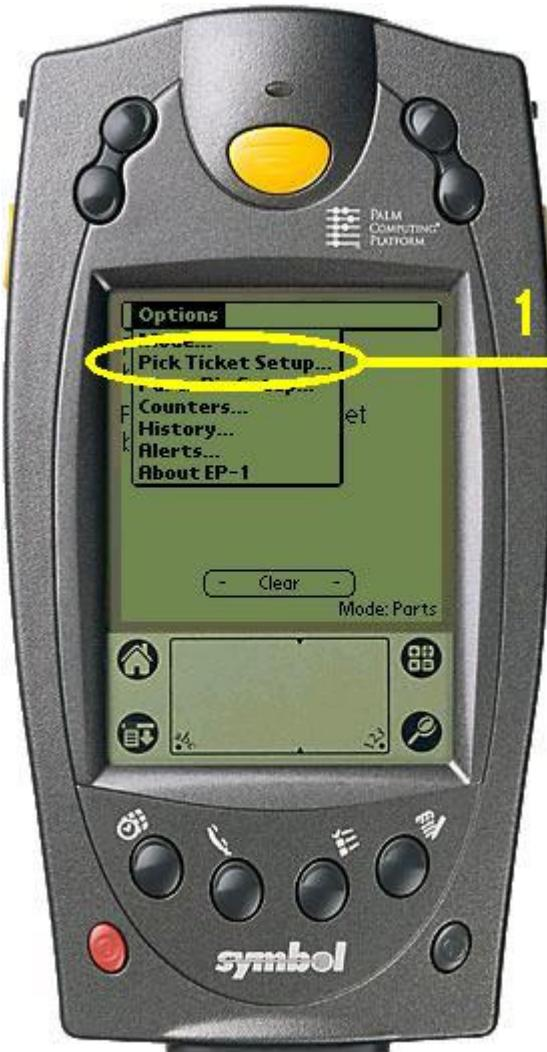

FIGURE 12. PICK TICKET SETUP
Select the Pick Ticket Setup (figure 12, item 1 shown below).